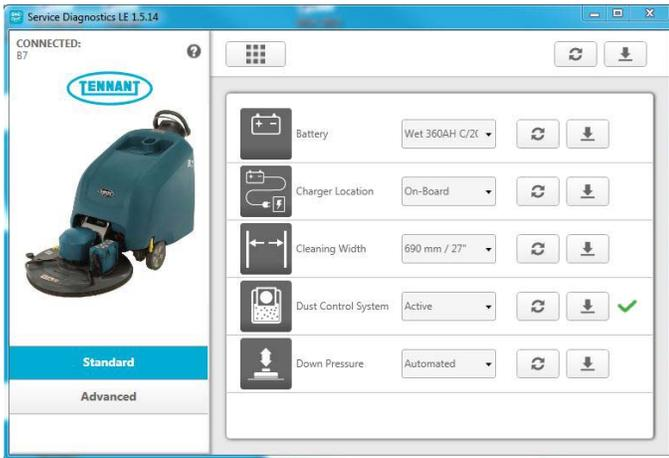

Fig. 10
12. Check and correct the installed options (Figure 10). Then press the down arrow button to program the machine. A green check will appear next to the down arrow button when programmed.